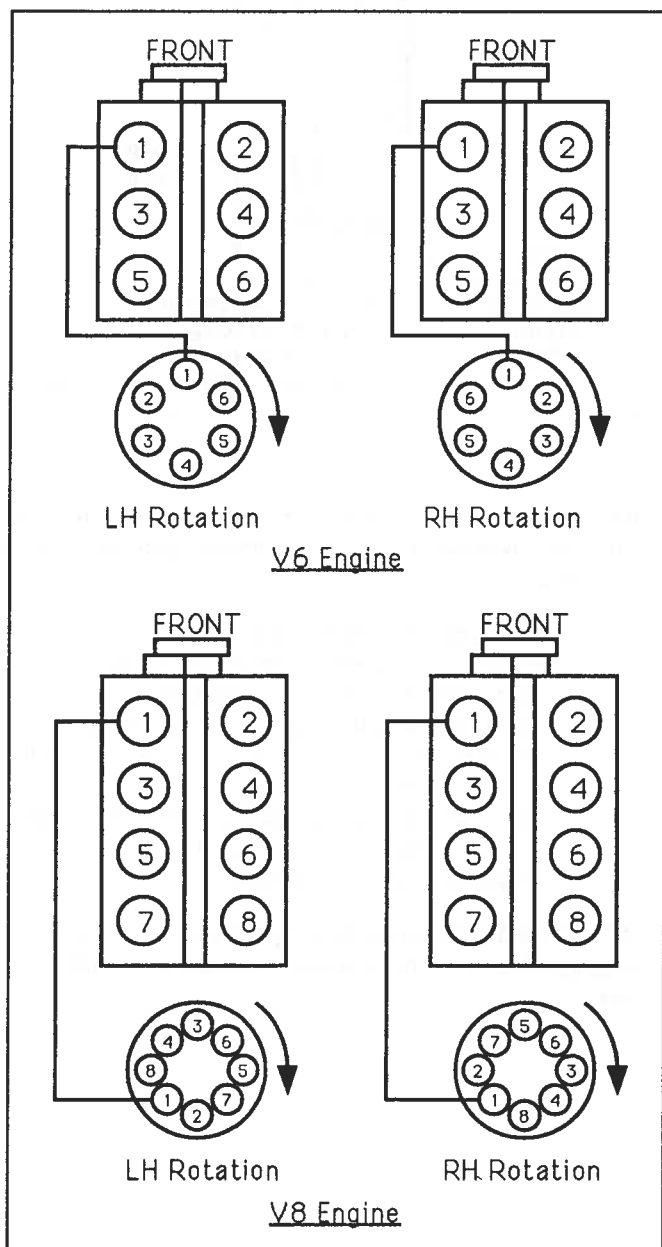

Figure 4-2. Spark Plug Order
1. Connect the timing light to the No. 1 spark plug (see Figure 4-2). Connect power supply leads on light to the 12 V battery.
1. Connect the timing light to the No. 1 spark plug (Figure 4-2). Connect the power supply leads of the light to 12 V battery.